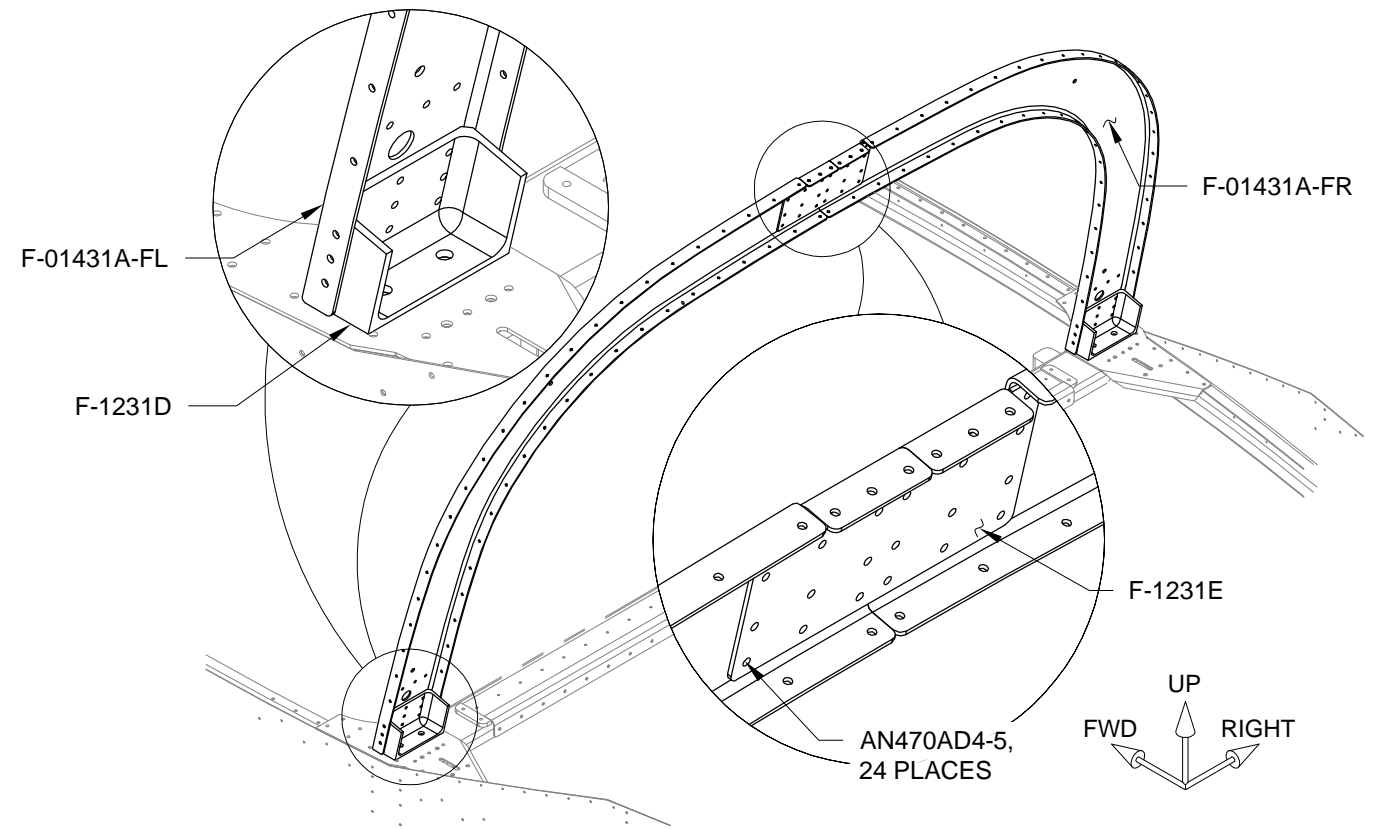

FIGURE 3: FWD ROLL BAR FRAME ASSEMBLY
Step 4: Cleco the F-01431A-FL & -FR Roll Bar Frames to the F-1231D Roll Bar Base on both sides of the fuselage. Rivet the F-1231E Roll Bar Splice Plate to the roll bar frames using the rivets called out in Figure 3. This is now the FWD Roll Bar Assembly. Remove the FWD Roll Bar Assembly from the fuselage.